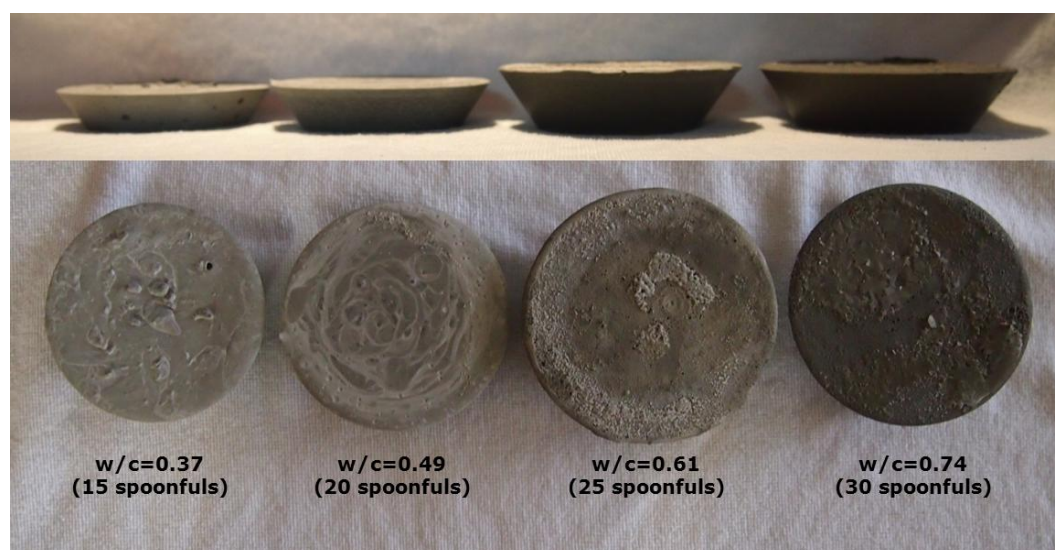

Figure 1. Influence of w/c ratio on the thickness and color of the cement puck
- a. If using Styrofoam bowls, have students use a ruler to measure $\frac{3}{4}$ " from the bottom of the bowl on the slanted portion of the bowl and mark it with a pen. Measure this in several places and then use the marks to draw a line around the inside of the bowl. Students will pour cement paste into the bowl until reaching the line. This will create pucks that are approximately the same thickness. The thickness of a puck is influenced by the amount of each component added to the paste, and pucks of different thickness may perform differently due to geometry rather than the components added to the puck. Figure 1 shows pucks that were made with no regard to the thickness. It can clearly be seen that for the same amount of cement, adding different amounts of water can significantly influence the thickness of the puck. It is expected that the thicker pucks will perform better simply due to the added mass (i.e. a thicker object is usually harder to break than a thinner object of the same material). This is why it is important to specify the same thickness for all of the pucks.